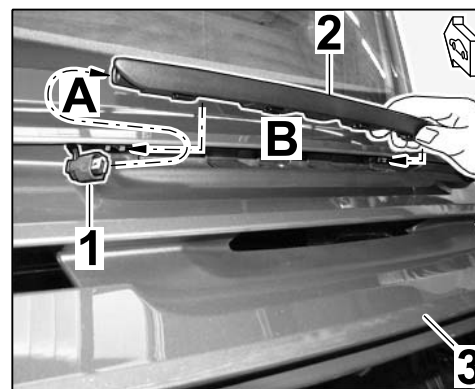

Figure 11
- 3.3.2 Insert additional brake light connector, which is no longer required, (Coupé: rear lid or Cabriolet: convertible-top compartment lid) in the additional brake light trim (⇒ *Figure 11 -A-*).
- 3.3.3 Fit trim in the rear lid/convertible-top compartment lid (⇒ *Figure 11 -B-* ⇒ *Workshop Manual '947019 Removing and installing additional brake light'*).